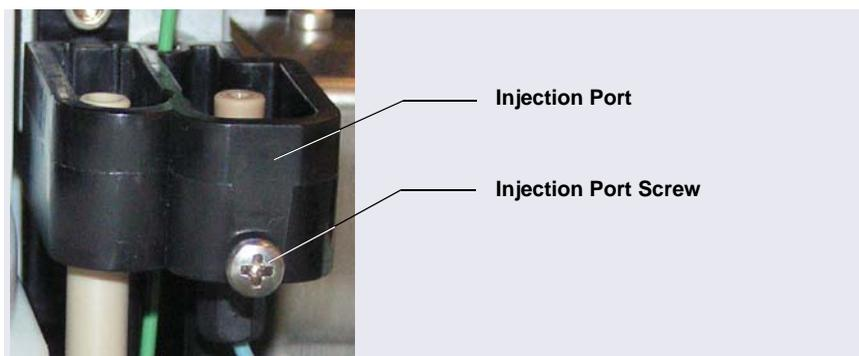

Figure 5-40. Injection Port Screw
2. Using a small Phillips head screwdriver, loosen—but do not remove—the screw on the front of the injection port (see Figure 5-40).